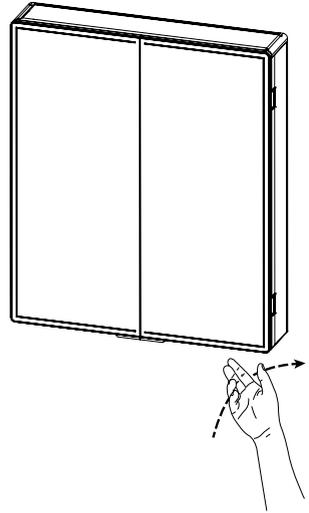

Fig. 6. - Switch operation
1. Wave hand past the sensor switch underneath the right hand side of the cabinet, *see Fig. 6.*